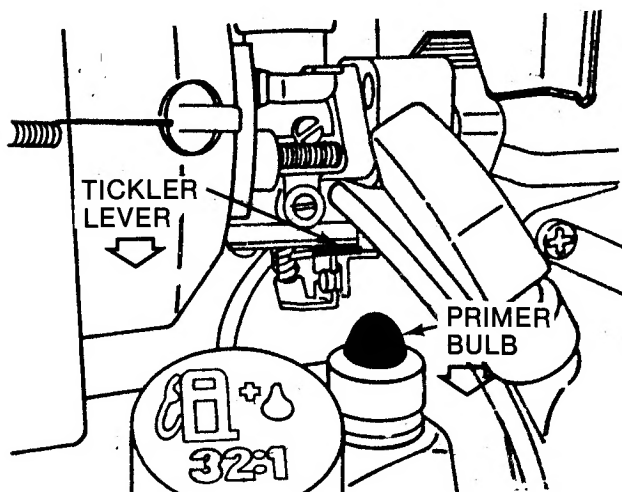

FIG. 3 -- PRIMER OPERATION
**STEP 2:** Push the fuel TICKLER LEVER down and hold down while pumping the fuel PRIMER BULB until fuel is observed flowing out of the overflow tube (figure 3).